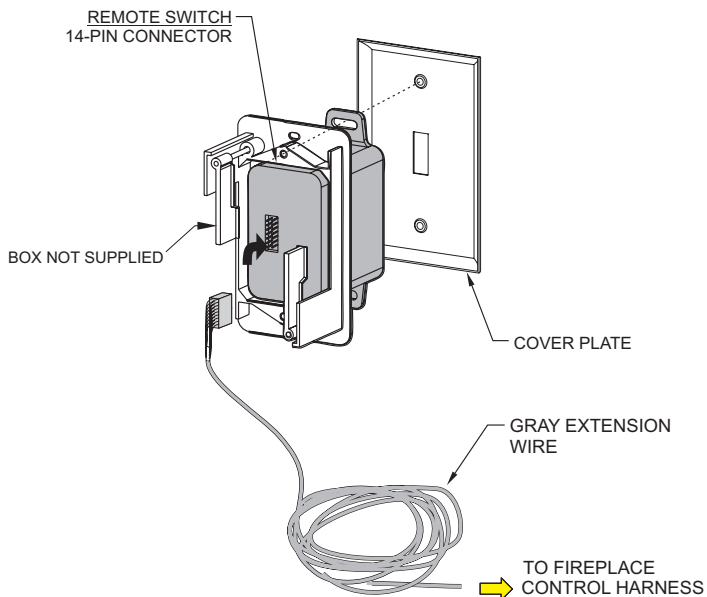

**Figure 32**
14. Install the provided plastic bushing in the opening where the wires exit the fireplace. **See Figure 32 (left side), or Figure 33 (right side).**